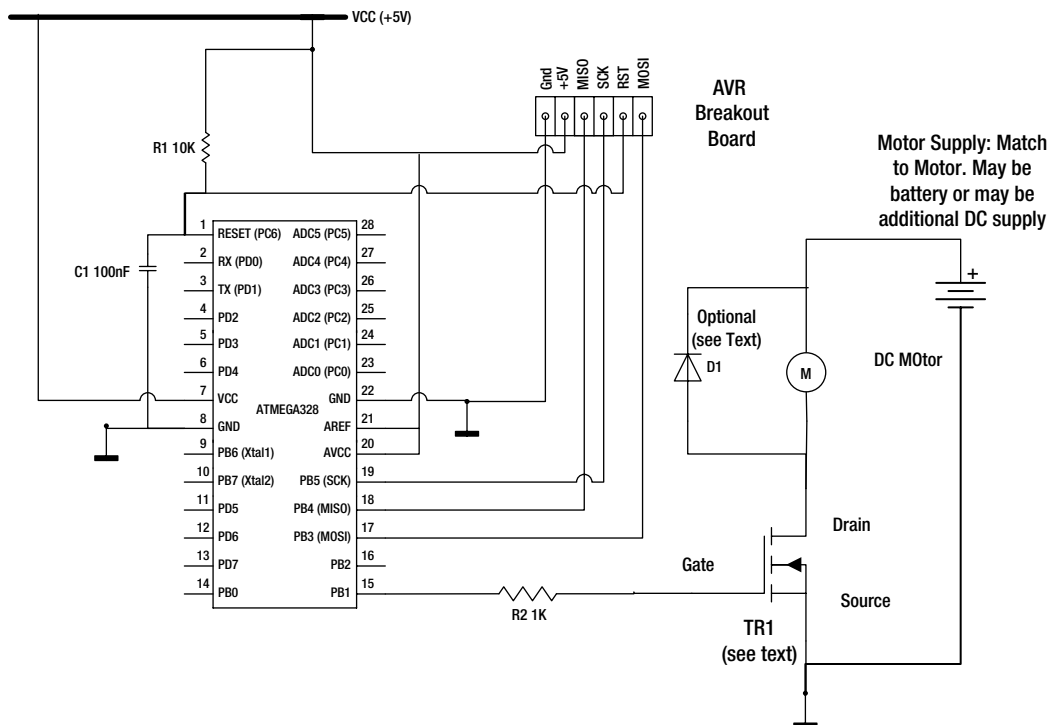

Figure 4-31. Circuit diagram for the motor driver
- A DC motor of some kind. If you can get a 6-volt motor you can run it from the same +5 V supply as your test bed rig; it just won't go quite as fast as it otherwise would. If you can't find a +6 V motor, you can use a +12 V motor but you will have to use an additional supply from a 12 V battery or another mains supply with a 12 V output. Figure 4-31 demonstrates how these wire.